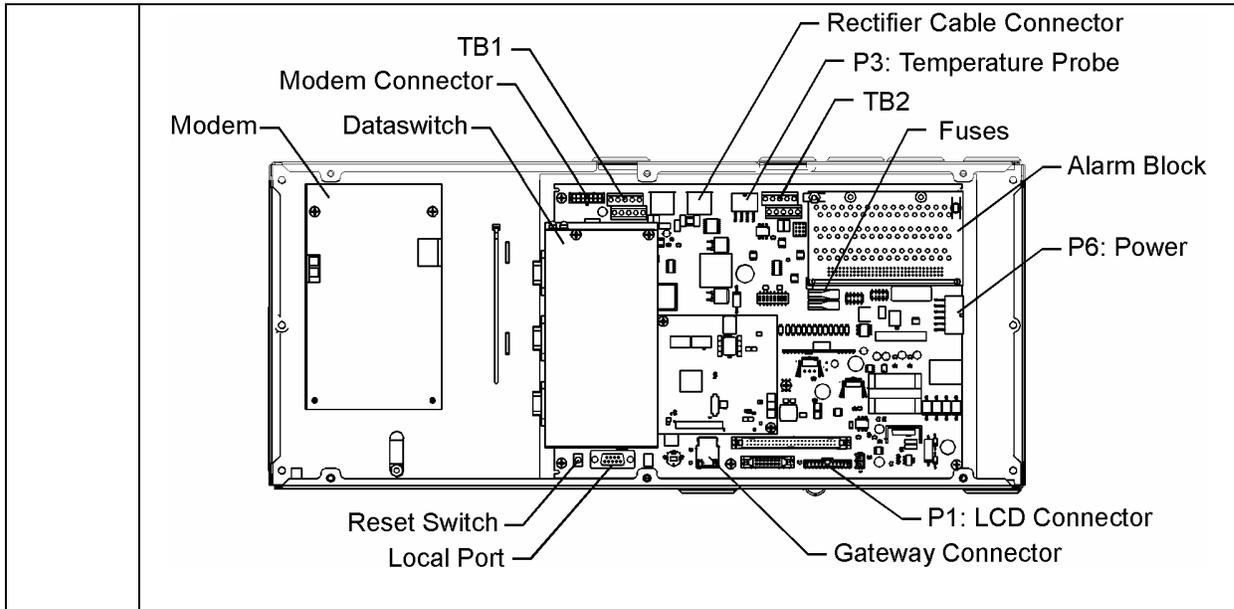

Figure 6-11: Millennium II Controller Connections
a.	On the controller (MCR1), locate P2 (Gateway LAN). It is located at the bottom of the controller. (see Figure 6-11)
a.	Inside of the controller housing, determine if a Modem card is installed. It will be located to the left of the MCR1 board. (see Figure 6-11)
<p>If NO cable terminated on P3 on the Millennium, then proceed to the next item for connection.</p> <p>If a cable terminated on P3 on the Millennium, connect the old cable to P3 on the Millennium II. P3 is a white connector located at the top of the MCR1 board. (see Figure 6-11)</p>
<p>If a cable terminated on TB200 on the Millennium, connect the old bus cable to TB1 on the Millennium II. (see Figure 6-11)</p>
a.	On the controller, locate TB1. It is located at the top of the board. (see Figure 6-11)